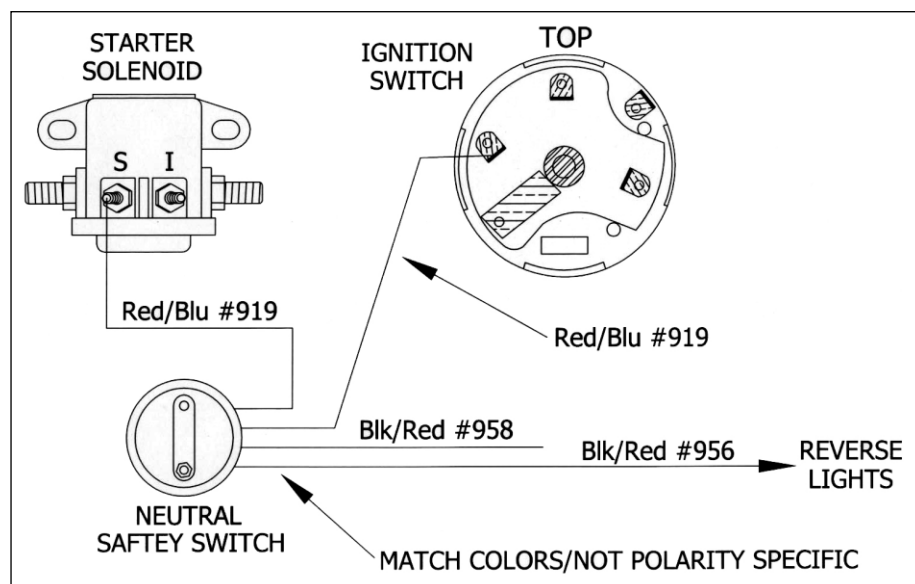

Figure 7-7 NEUTRAL SAFETY SWITCH
- 7.3.5** Neutral Safety/Backup Light Switch wire #'s 958, 956 and 919 (2 wires) all breakout from the firewall in the ENGINE SECTION. #958 is the power source to the switch for the backup lights and #956 is the wire connected to the actual bulbs. Wire **IGNITION SWITCH START** #919 comes from the start terminal on the Ignition Switch and provides the start signal to the Neutral Safety switch. Wire **STARTER SOLENOID** #919 carries the start signal from the Neutral Safety switch to the Starter Solenoid. **See Figure 7-7.**